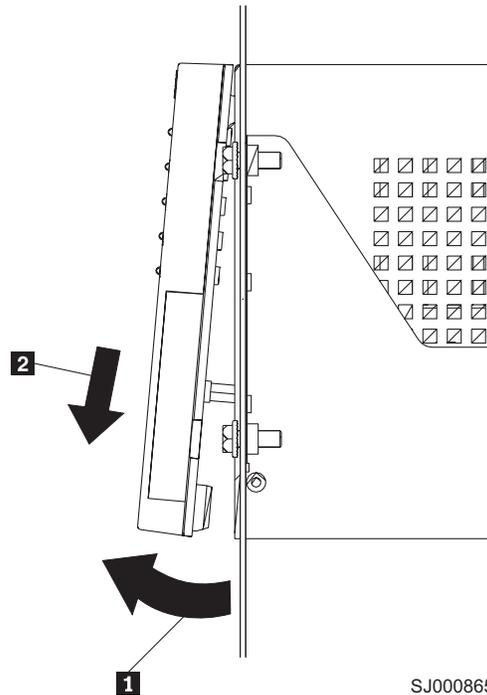

Figure 9. Removing the controller unit bezel (machine types 3552 and 1742)
1. Remove the front bezel from the storage subsystem, as shown in Figure 9. Carefully pull the bottom of the bezel out **1** to release the pins; then, slide the bezel down **2**.